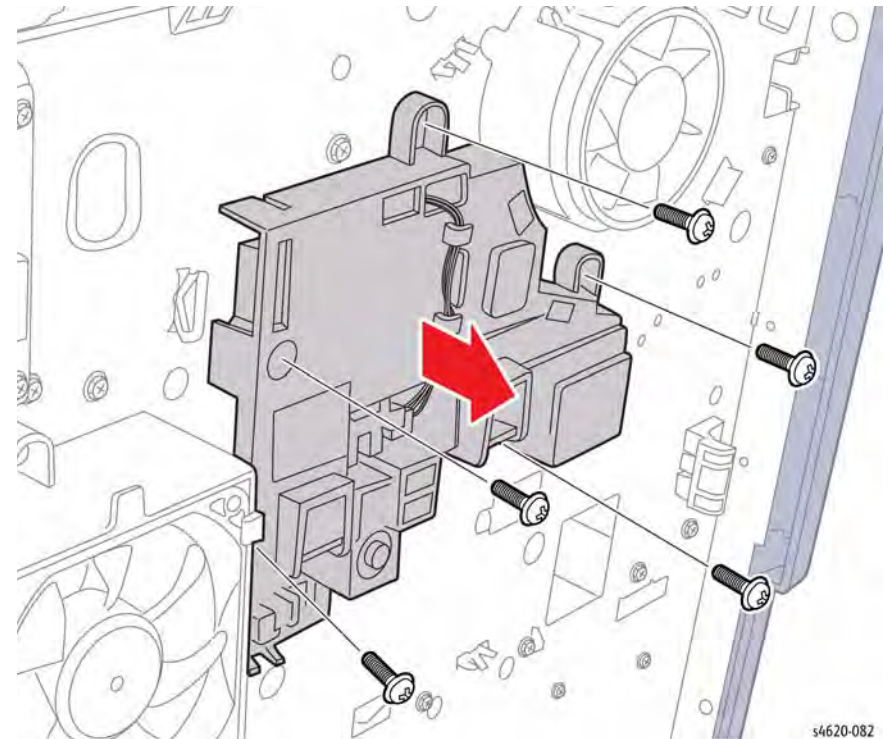

Figure 1 Remove the bias cover screws
6. Remove 5 screws that secure the bias cover to the chassis, Figure 1.